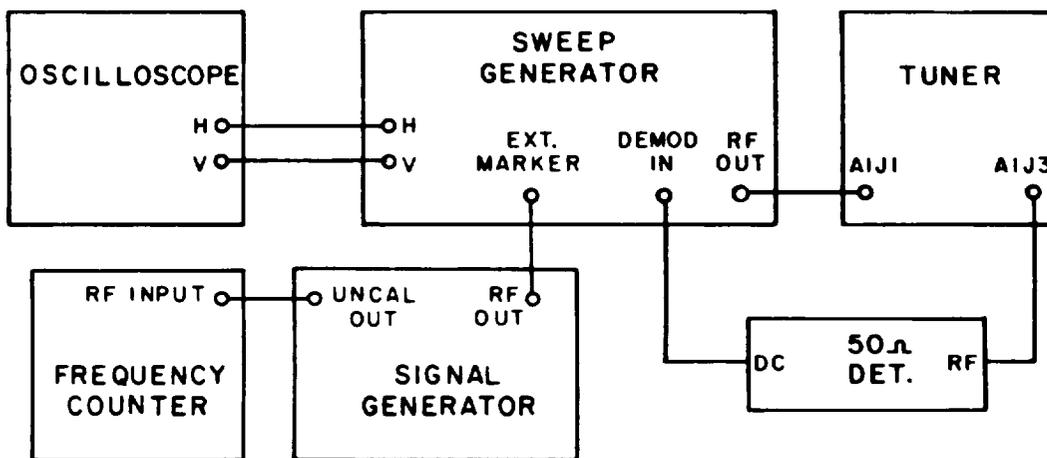

Figure 4-2. Test Setup, Overall Tuner Gain
- (1) Connect the equipment as shown in Figure 4-2. Set the oscilloscope vertical sensitivity to view a 6 mV signal.